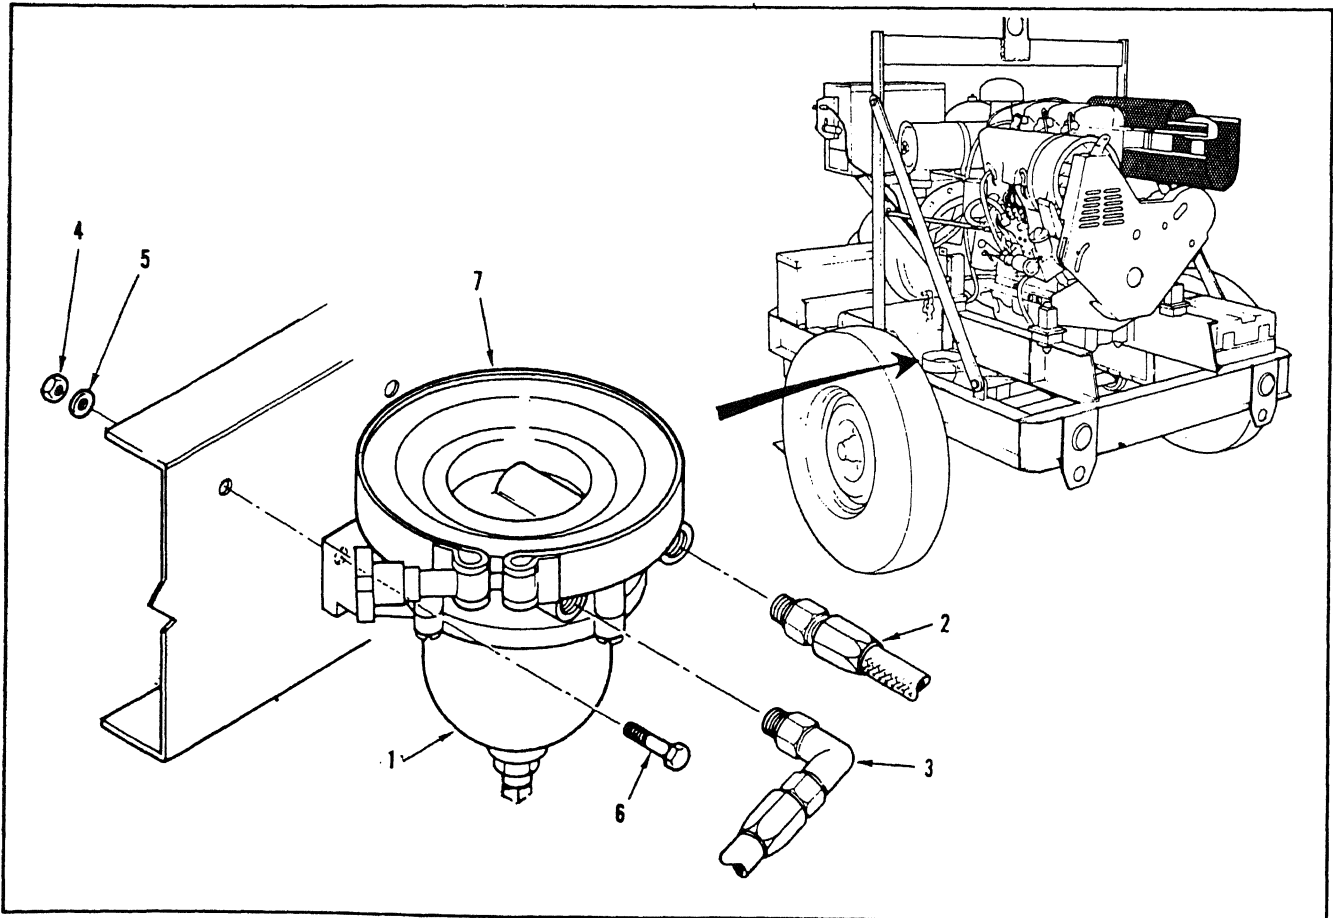

Figure 4-25. Fuel Filter/Separator, Removal/Installation
a. Removal (figure 4-25).
- (1) Place bucket under filter bowl (1) and drain fuel from filter. (Refer to paragraph 3-7.)
- (2) Disconnect fuel inlet (2) and outlet lines (3) from filter housing.
- (3) Remove nuts (4), washers (5) and bolts (6); remove housing (7).